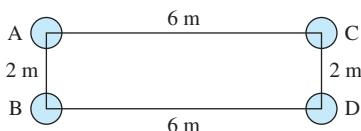

FIGURE P9.47 Single-phase, two-bundle transmission line.
- 9.47** (A) Calculate the capacitance per meter for the configuration in Figure P9.47. Each subconductor's radius is 5 cm; A and B are in a bundle, and C and D are in the other bundle.